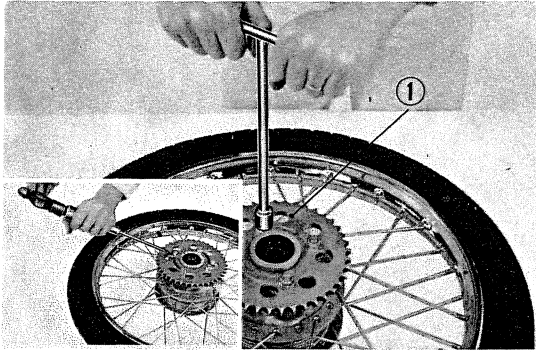

Fig. 116 Final driven sprocket assembly
- 3) Mount the final drive sprocket on the rear wheel hub, install the tongued washers, and nuts. After torquing the nuts, bend the tab on tongued washer to lock it. Finally, install the circlip. (Fig. 116)